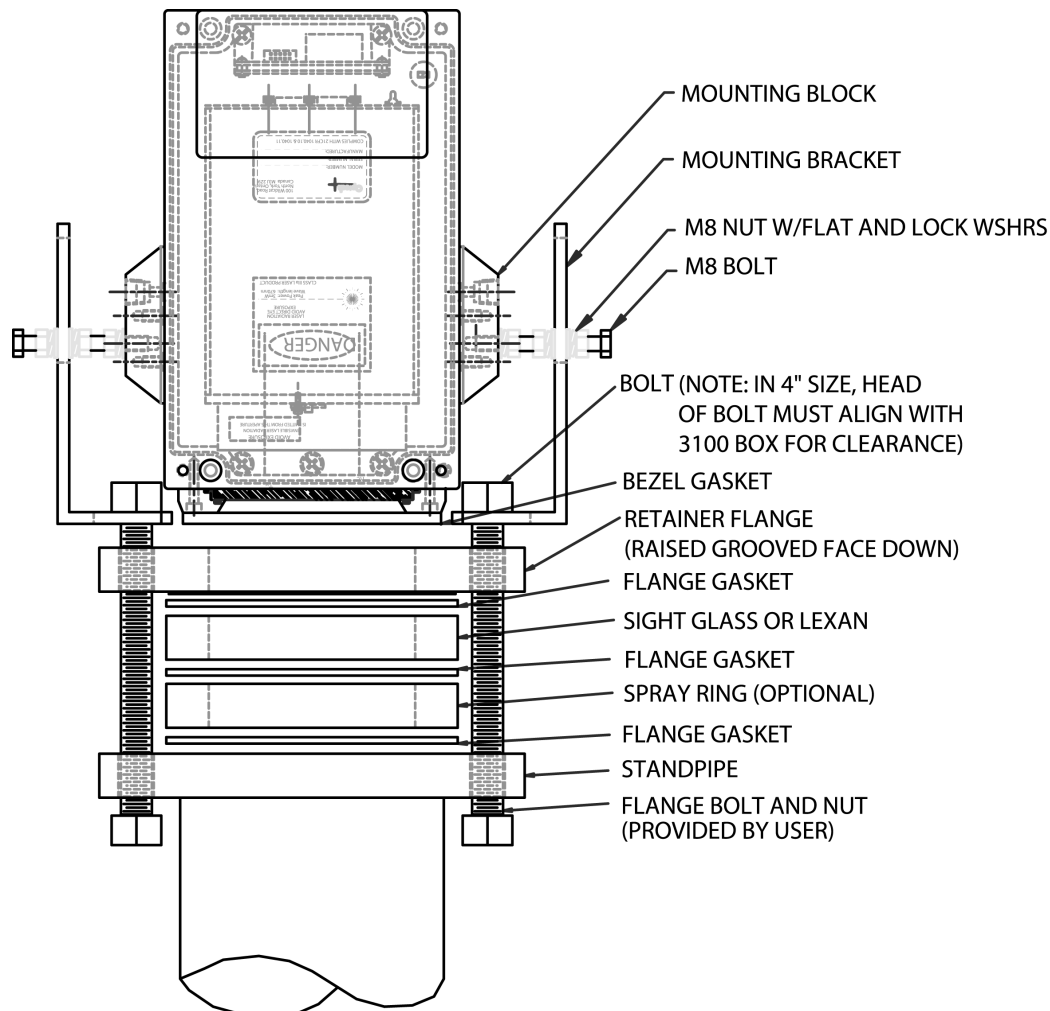

Figure 16: Sightglass and Gasket Installation (Front View)
- ◆ Figure 16 above covers 4" and 6" non-pressurized, class 150#, 300# and 600# flanges.